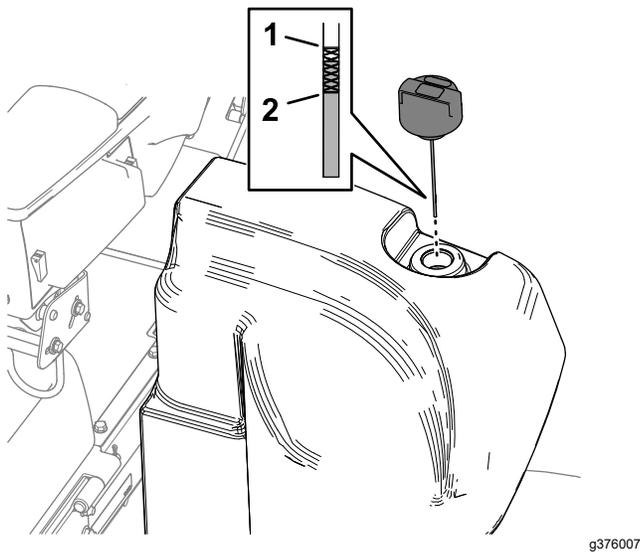

Figure 101
2. Clean the area around the filler neck and the cap of the hydraulic tank (Figure 101).